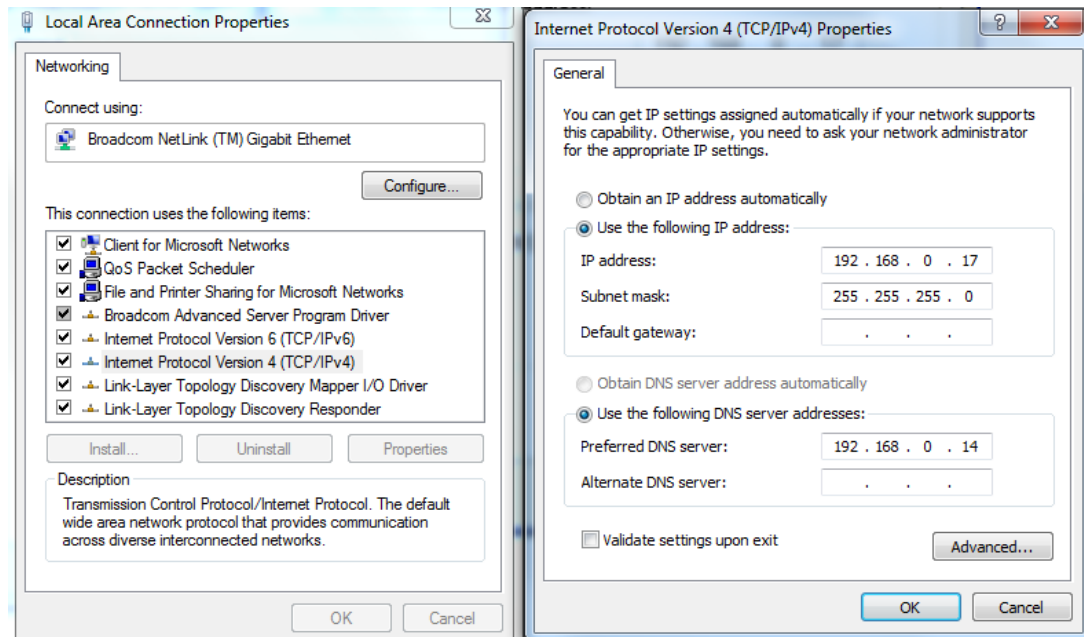

Figure 8 • Static IP Settings on Host PC
2. Plug in the UART cable between the host PC and board. Figure 8 gives an example of assigning a Static IP address on the Host PC: